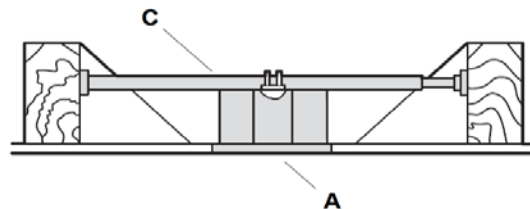

Fig. 5
NOTE: For angled ceiling installation, the opening of the hanger bracket (B) must be pointed toward the peak. To hang your fan where there is an existing fixture but no ceiling joist, you may need an installation hanger bar (C) as shown in **Fig.5**. Make sure the hanger bar you purchase has been designed for use with ceiling fans.